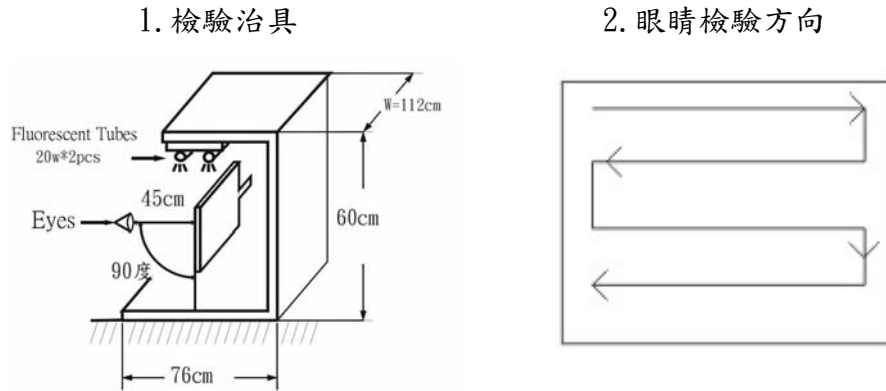

Figure 11-1
(1)	<p>The inspection was performed with two 20W(1800±500 LUX) fluorescent lamp lighting from back or side. The panel was placed 45cm away from eyes. (Figure 11-1).</p> <p>[(1) 檢測始用之燈光為二盞 20W(1800±500 LUX)白熾燈光，並於面板後側或上側照射，檢測時須放置在離眼睛 45cm 處(Figure11-1)]</p>